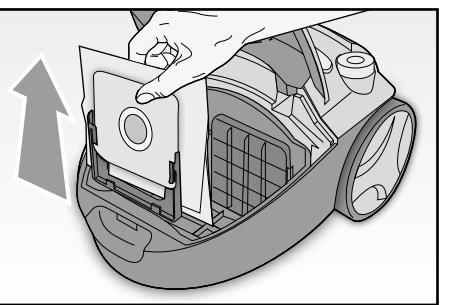

Fig. 8
- Remove the bag (FIG. 8), taking care not to tear it; slide the stiff plastic section along the special guides. Wash the bag in water and a mild detergent, if necessary.
- Remove the bag (FIG. 8).